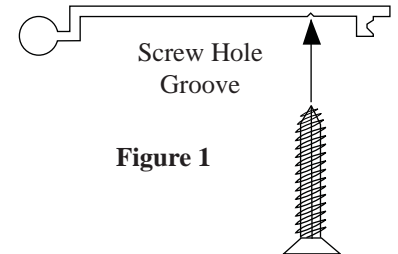

Figure 1
Drill three (3) 3/16" holes in the housing hinge, one approximately 2" from each end, one approximately in the middle. Locate the holes using the screw groove in the hinge (Figure 1). Note: Holes may be pre-drilled from the factory.